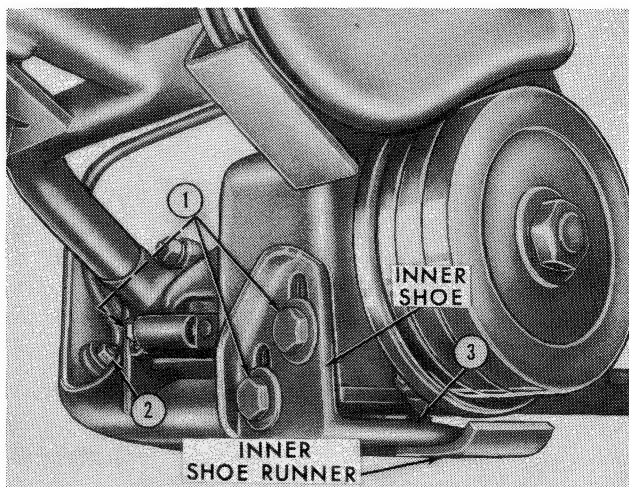
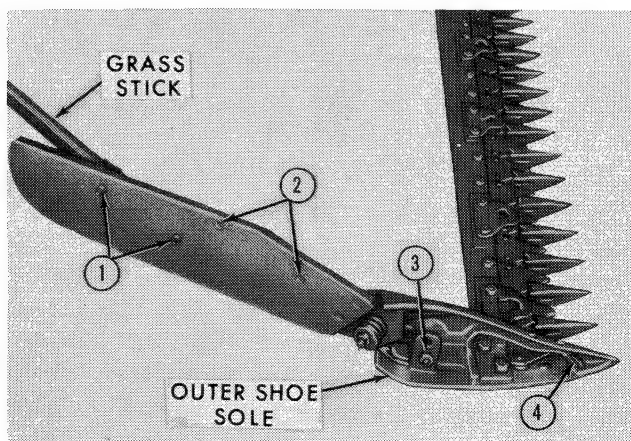

Figure 10
Figure 11
The height of cut is controlled by raising or lowering the cutter bar shoes. The inner shoe, Figure 10, is adjusted by loosening the three attaching bolts (1), and sliding the shoe assembly up or down. The outer shoe sole, Figure 11, is adjusted by changing the location of the attaching bolt (3) in the various holes. For a uniform height of cut, adjust both shoes equally.
For the most efficient mower operation, the grass stick, Figure 11, should be adjusted to leave the widest strip possible between the cut swath and the uncut hay. The grass stick can be adjusted for varied conditions by repositioning the grass stick in the two sets of holes (1) and (2), Figure 11, in the swath-board. Normally, the grass stick is positioned in the front set of holes (2) for short hay and in the rear set of holes (1) for long hay.